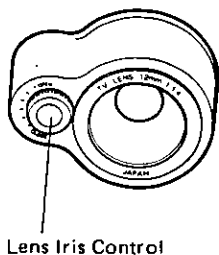

Fig.3
(3) Adjust the lens iris control on the lens to necessary level. (Fig. 3)